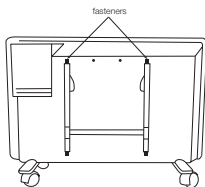

Figure 4
- press the latches and pull the bracket pushing two latches (Fig. 4);
It is not difficult to clean of the place behind the heater mounted on the wall. Press two latches (Fig. 4) on the rear panel of the heater